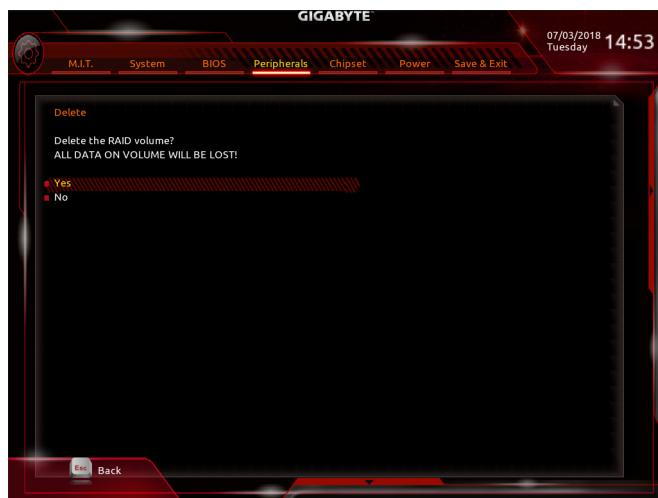

Figure 12
To delete a RAID array, press <Enter> on the volume to be deleted on the Intel(R) Rapid Storage Technology screen. After entering the **RAID VOLUME INFO** screen, press <Enter> on **Delete** to enter the **Delete** screen. Press <Enter> on **Yes** (Figure 12).